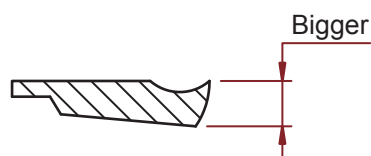
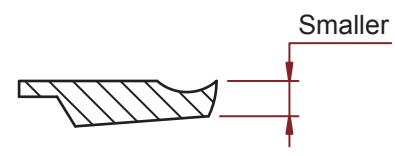

Fig. 13-2
Fig. 13-3
- If outer cutting face is bigger (Fig. 13-2)
- ① Decrease scale of the Positioning Shelf and re-positioning.
- ② Re-grinding the End mill.
- If outer cutting face is smaller (Fig. 13-3)
- ① Increase scale of the Positioning Shelf and re-positioning.